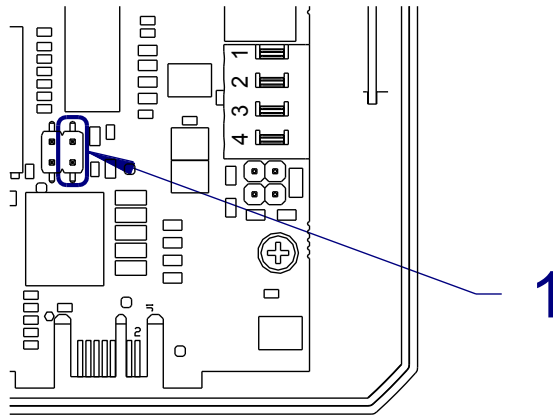

Fig. 16 – Service jumper connection on PCB of **AMR-CU70B/xx**
**Jumper location** The service jumper located on PCB is accessible after the cover is taken off, see Fig. 16.